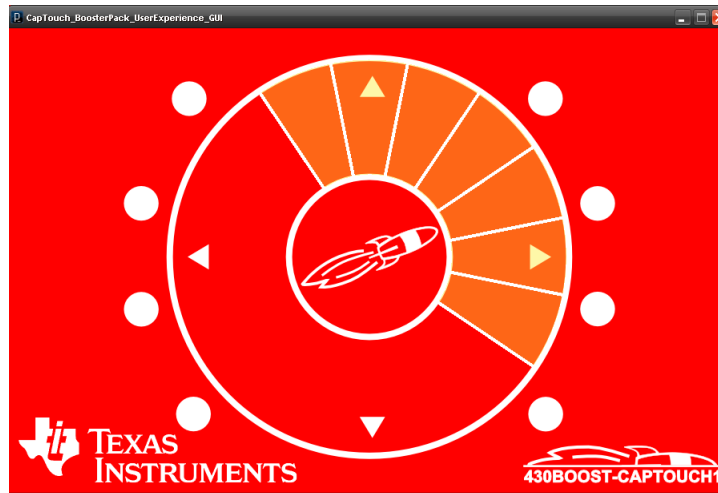

Figure 4. PC GUI in Active Mode
4. The gesture tracking (Start, Stop, and Update) is visualized on the wheel with the coloring of the wheel slices (see Figure 4). Gesture can be tracked for several revolutions of the wheel, in both clockwise and counter-clockwise directions⁽¹⁾.